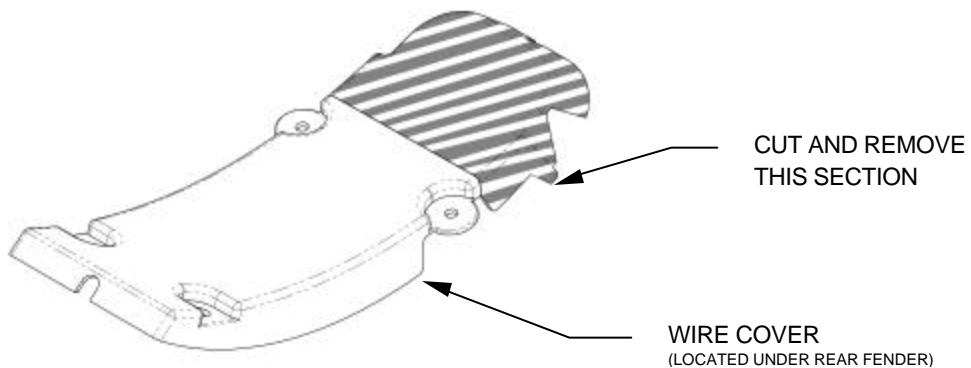

FIGURE 2
1. Remove the wire cover and four screws. Set them aside for reinstallation. (Refer to fig. 2)
8. Modify the wire cover removed in step 1 so it looks like fig 2.